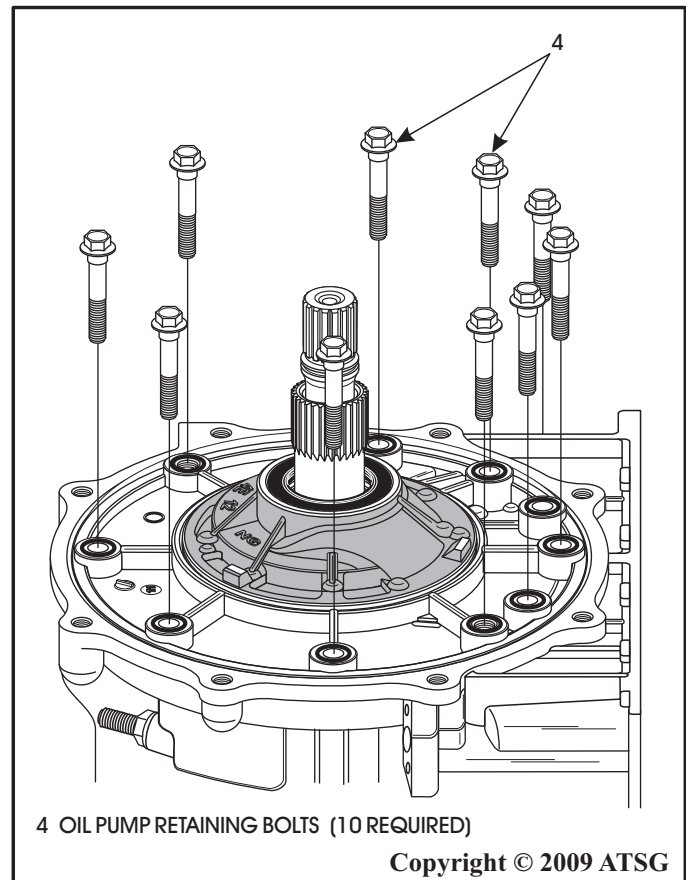

Figure 42
15. Remove the 10 oil pump to case retaining bolts, as shown in Figure 42.